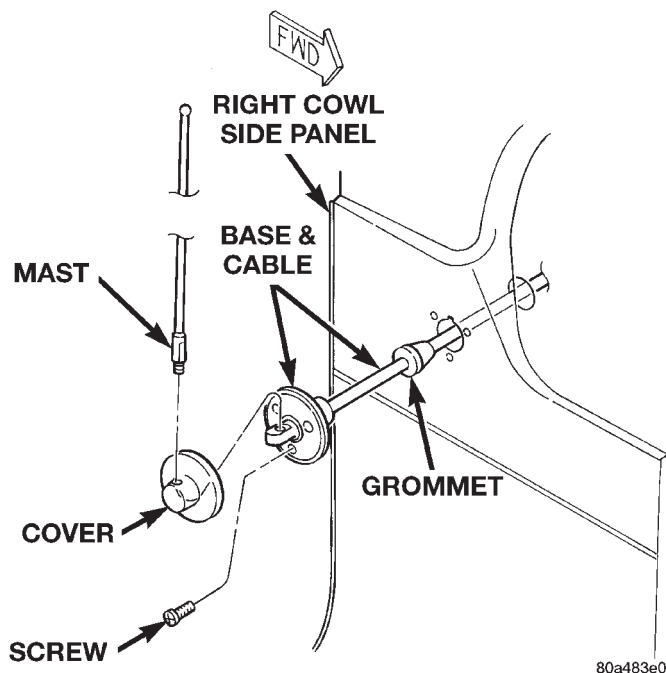

Fig. 9 Antenna Remove/Install
(1) Disconnect and isolate the battery negative cable.
(2) Remove the glove box from the instrument panel. Refer to Glove Box in Group 8E - Instrument Panel Systems for the procedures.
(3) Reach through the instrument panel glove box opening to unplug the antenna coaxial cable connector. Unplug the connector by pulling it apart while twisting the metal connector halves. Do not pull on the cable.
(4) From inside the passenger compartment, push the coaxial cable grommet on the antenna body half of the coaxial cable out through the hole in the right inner cowl side panel (Fig. 9).